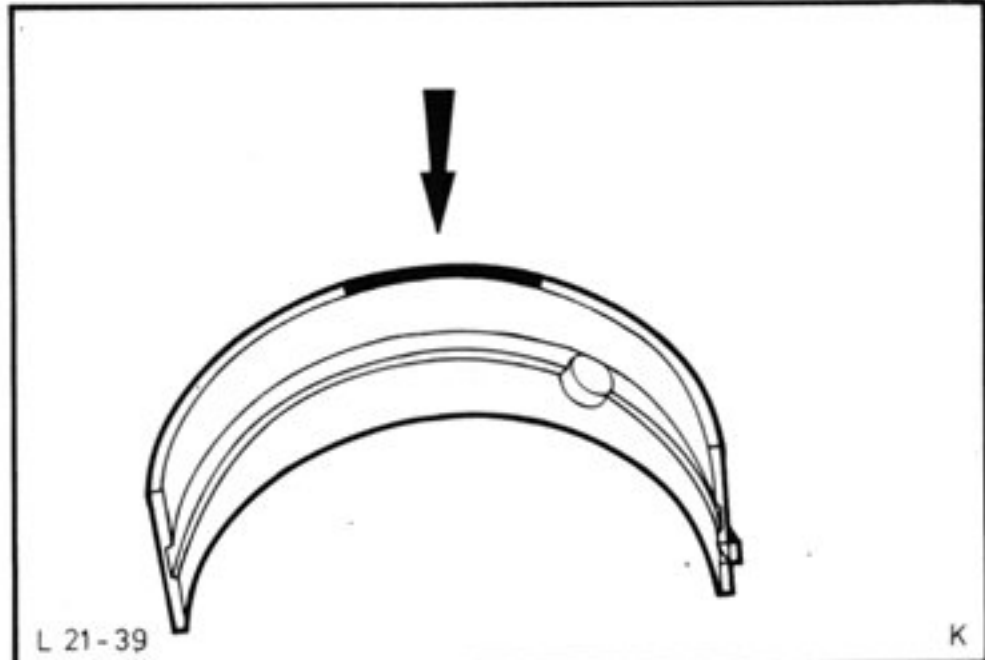

Fig.46. Bearing shell colour marking (Production repair size).
Standard main bearing and big end bearing shells are not marked. Bearing shells for undersize crankshafts or oversize cylinder blocks have an appropriate inscription on the back (see Parts Catalogue Microfilm) while colour markings on production repair sizes are on the outer edge at the side, Fig.46. The Service main and big end bearing shells (0,5, 0,75, and 1,00 mm (0,02, 0,03, 0,04 in.) must not be used.
46. Check camshaft end-float, using dial indicator, Fig.46, then check backlash at four points of gear (see Technical Data).